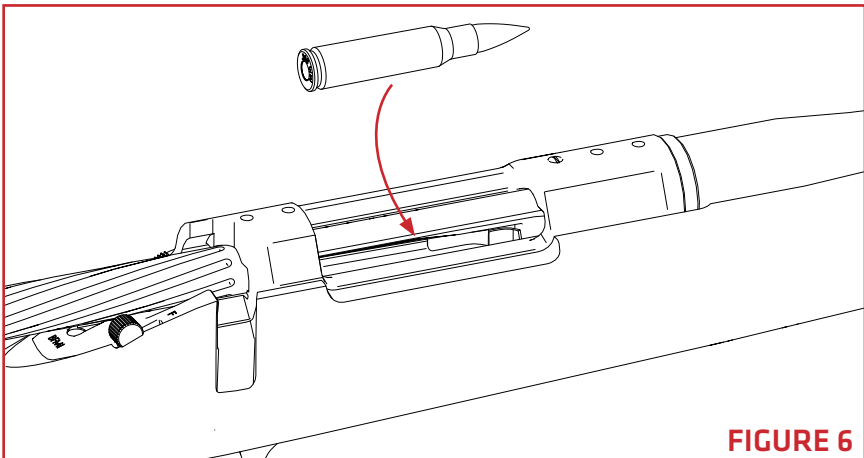

FIGURE 6
3. Insert the cartridges by placing them on top of the follower (or next cartridge) and pressing down until the cartridge snaps into place (**FIGURE 6**). Ensure the cartridge seats fully rearward in the magazine. Failure to do so may impede further loading or function.